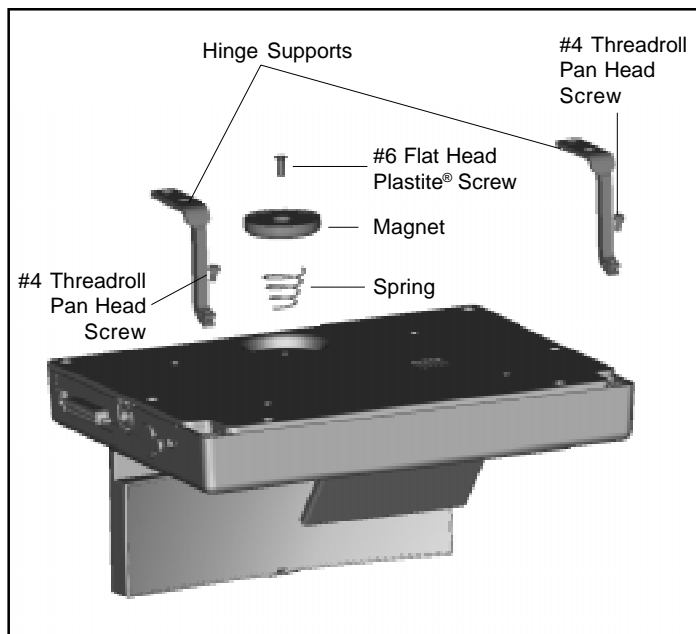

Figure 23 Friction Hinge Mounting Hardware
2. Attach the magnet to the display with a #6 Plastite® Flat Head screw (3/8 in. long). Refer to Page 5 and Figure 23 for screw identification.
3. Attach the two friction hinge supports to the bottom of the display with the #4 Threadroll Pan Head screws. Refer to Page 5 and Figure 23 for screw identification.
6. Use a torpedo level to determine if the mount is level. If it is not level, attach the provided shims under the brackets until the mount is level with the driver's line of vision. Refer to Page 5 and Figure 23 for screw identification.